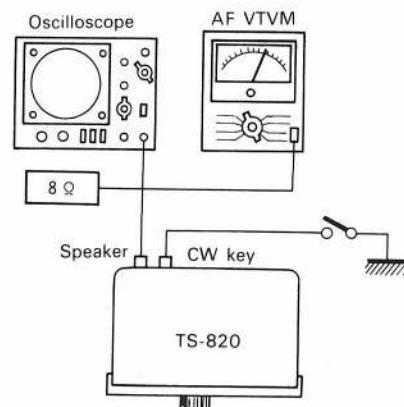

Fig. 39 Adjustment of side tone
- 1) In **Fig. 39**, adjust VR3 in AF + AVR unit (X49-1080-00) until AF output becomes 50 mW (0.63 V/8Ω) with the key down (refer to **Fig. 28**).